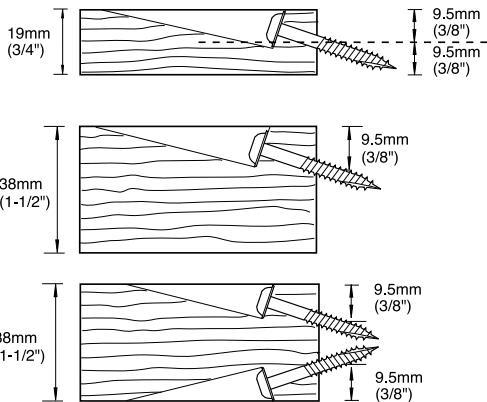

Fig. 6
- Pocket hole spacing - **(Fig. 6)**